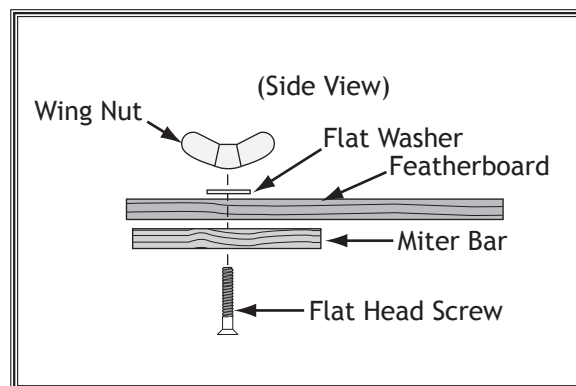

Figure 66. Assembly order of featherboard components for use with a miter slot.
8. Assemble the miter bar and featherboard with a $\frac{1}{4}$ "-20 x flat head screw, flat washer, and a wing nut or a star knob (see **Figure 66**). Congratulations! Your featherboard is complete.